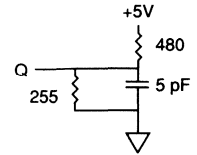

Fig. 2 OUTPUT LOAD EQUIVALENT
- t_{HZCE} , t_{HZOE} and t_{HZWE} are specified with $CL = 5pF$ as in Fig. 2. Transition is measured $\pm 500mV$ from steady state voltage.